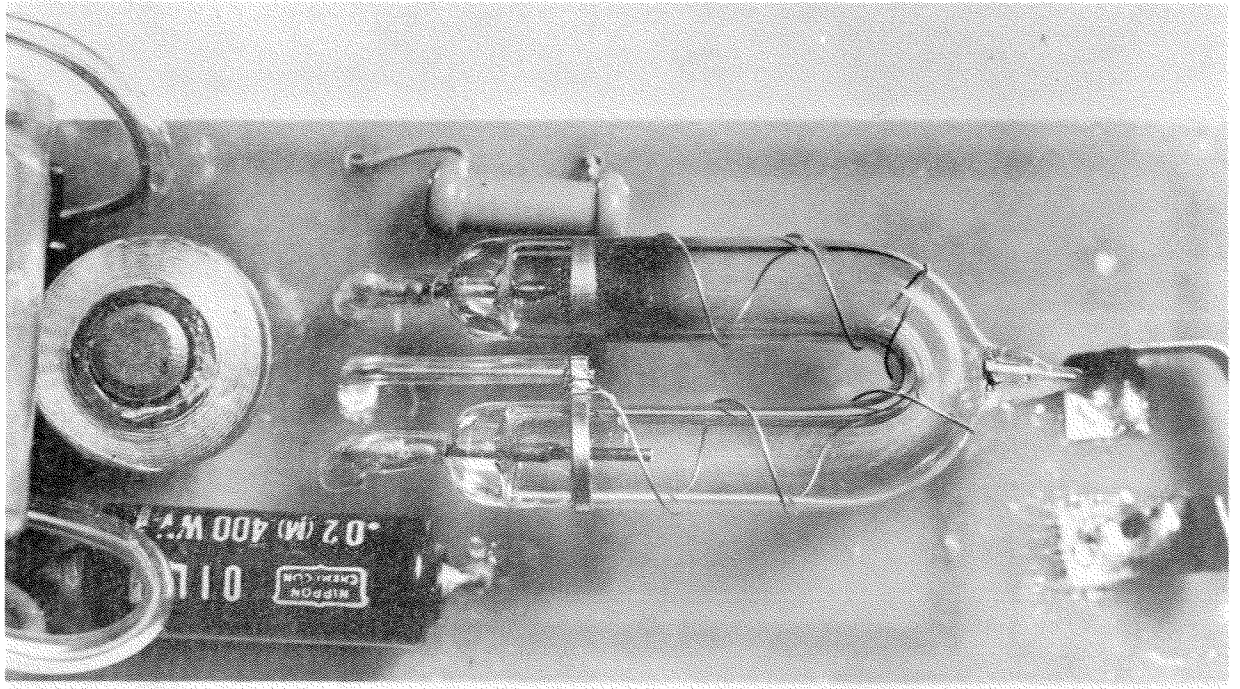

FIG. 32 FLASH TUBE WRAPPED WITH WIRE TO INCREASE IONIZATION.
c) Using a single strand of fine wire (from a scrap of 18 gauge stranded line cord) wrap the flashtube as shown in Fig. 32. Tie both ends of this wire to the metal band wrapped around the tube. Keep this wire away from the terminals at the base of the tube.